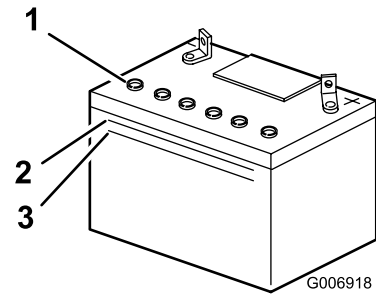

Figure 27
- Look at the side of the battery. The electrolyte must be up to the Upper line (Figure 27).
Note: Do not allow the electrolyte to fall below the Lower line (Figure 27).
- Remove the vent caps from the battery (Figure 27).
- Slowly pour distilled water into each battery cell until the electrolyte level is up to the Upper line (Figure 27) on the battery case.
5. Wait 5 to 10 minutes after filling the battery cells. Add distilled water, if necessary, until the electrolyte level is up to the Upper line (Figure 27) on the battery case.